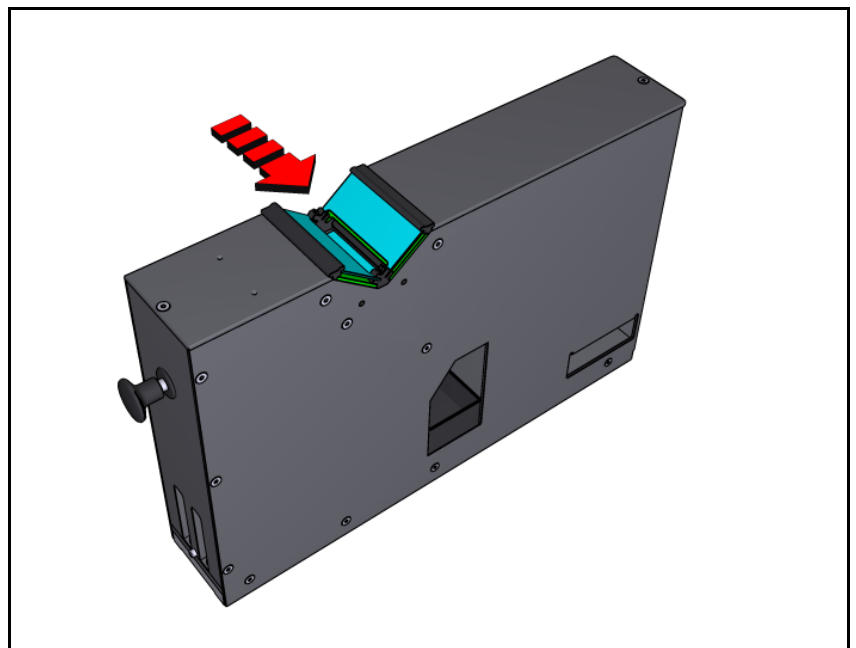

Figure 16-8. Camera glass, HYDRA camera.
3. Clean the HYDRA camera glass (see arrow in Figure 16-8).